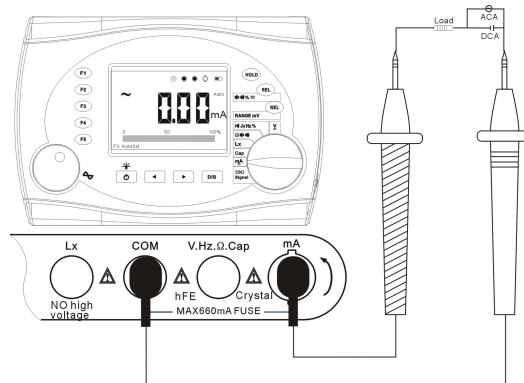

Fig17: Fig of mA measurement
2. Connect the test leads as the connection of Fig17 and the indicator in the screen. Plug the black test lead to the COM jack and the red into the mA jack.